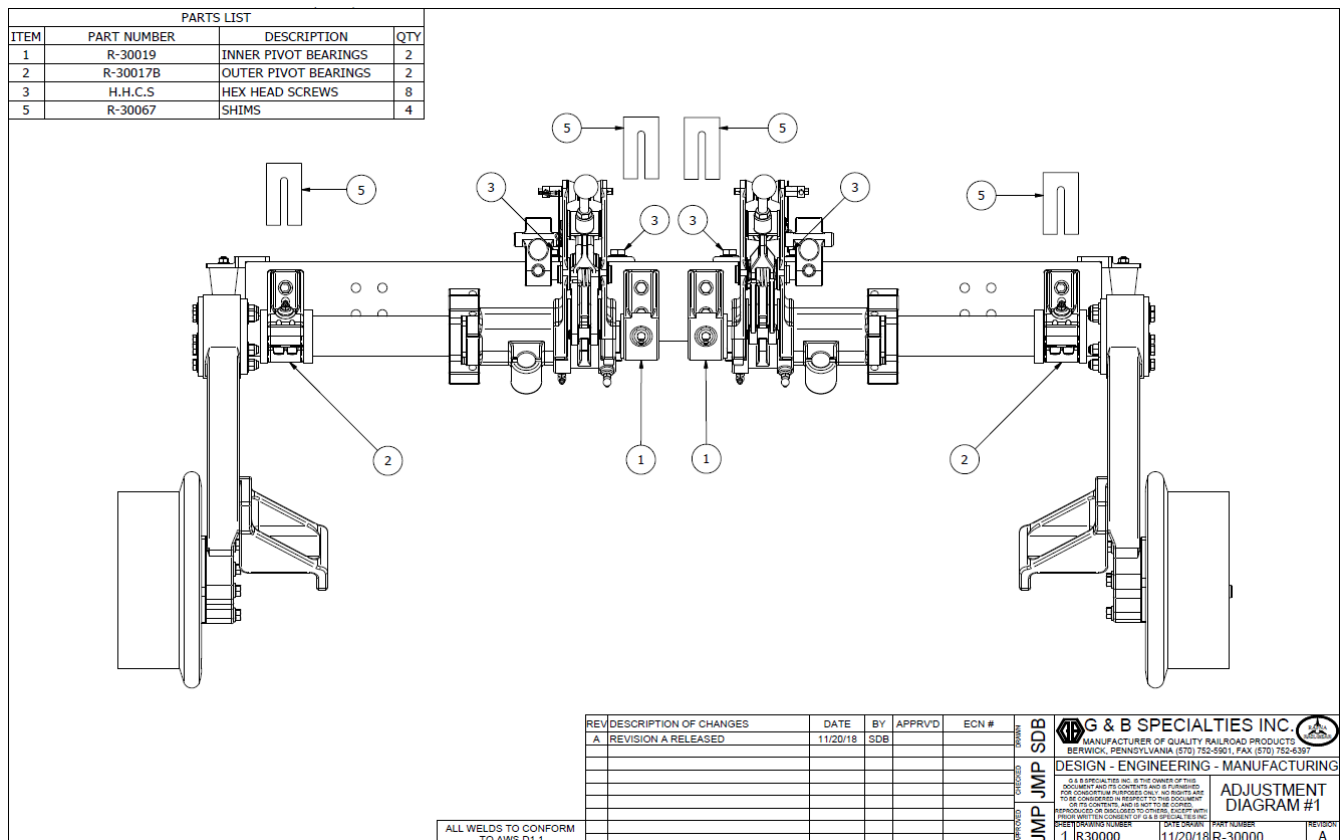

Figure 3-8
8. See Figure 3-8. If the vehicle pulls noticeable to the right when traveling forward, add a shim (5) (part no. 101818) behind the right front outer bearing. Do not use more than two shims on any pivot bearing during the original application of the guide wheel units or three shims on any pivot bearing during field inspection and adjustment.